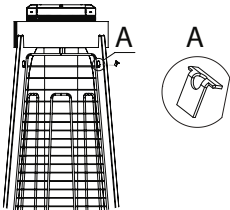

Fig.14b - Install grille lock
- b) Install the grille retainer into the groove in the upper profile (Figure 14b):